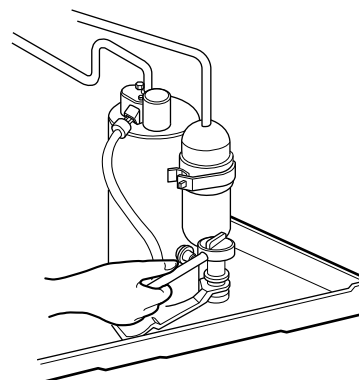

Figure 15
4. Remove the 3 nuts and the 3 washers which fasten the compressor. (See Figure 15)